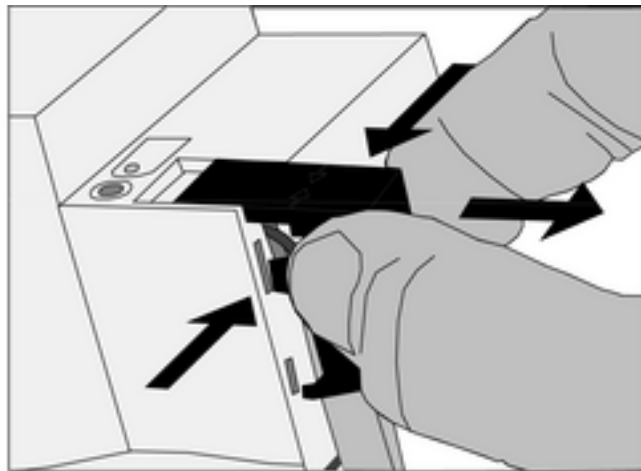

Figure 4: Removing the cover
- Press the cover to the side and pull it off (figure 4).